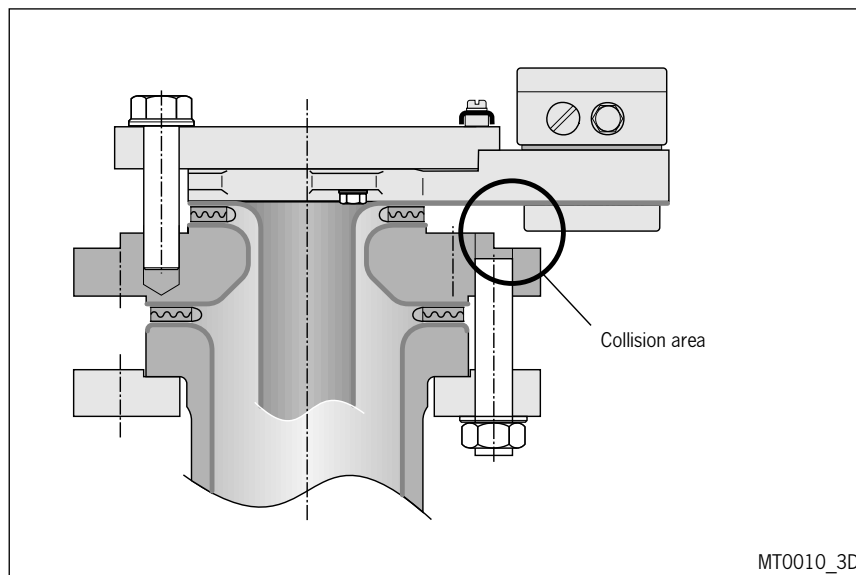

Fig. 7 Installation example with reducing flange
**⚠ When using your own reducing flanges, please make sure that the element covering the contact area below the terminal box does not sit on the reducing flange (cf. Fig. 7). In the event of non-compliance, the glass may be damaged at the bottom side of the flange, and the fused-in metal strips may be interrupted.**